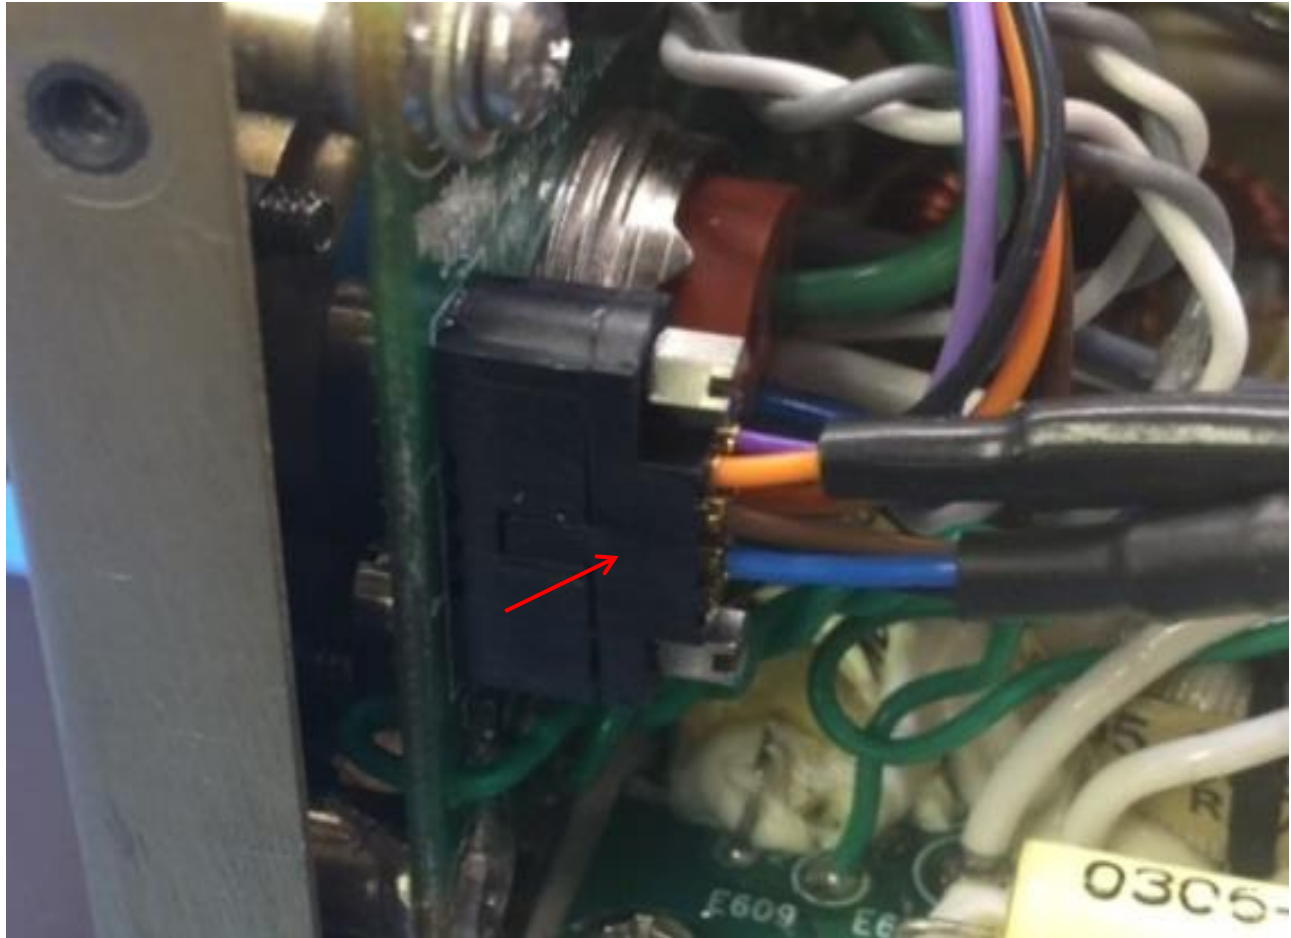

Figure 20
19. Connect the connector from the AC connector/alarm assembly (1-002-0108-0255). (Figure 20).